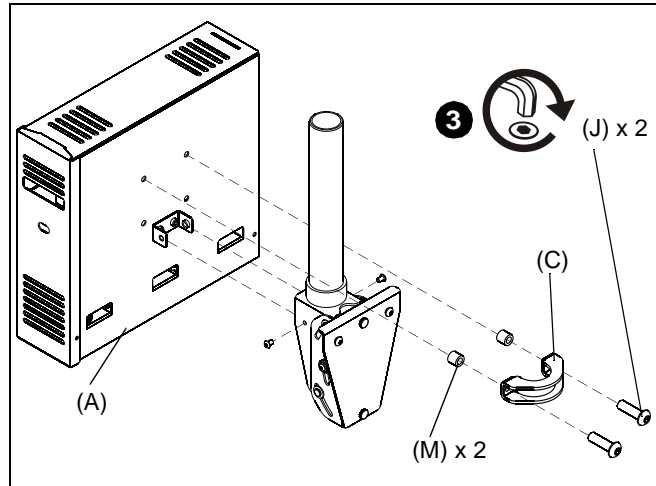

Figure 6
3. Attach CMA-170 to display pipe mount using one pipe bracket (C), two 5/16-18 x 7/8" button head cap screws (J) and nylon spacers (M). (See Figure 6)